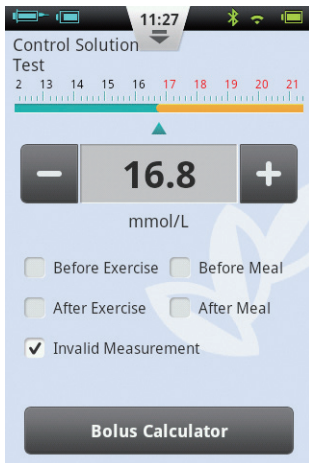

Figure 100
**2** When enough control solution has been applied, the screen will count down 5 seconds and then display the test result as in Figure 100. The result is displayed in the top half of the screen. If the result falls within the range printed on the test strip package (typically CTRL1) the device is working properly.